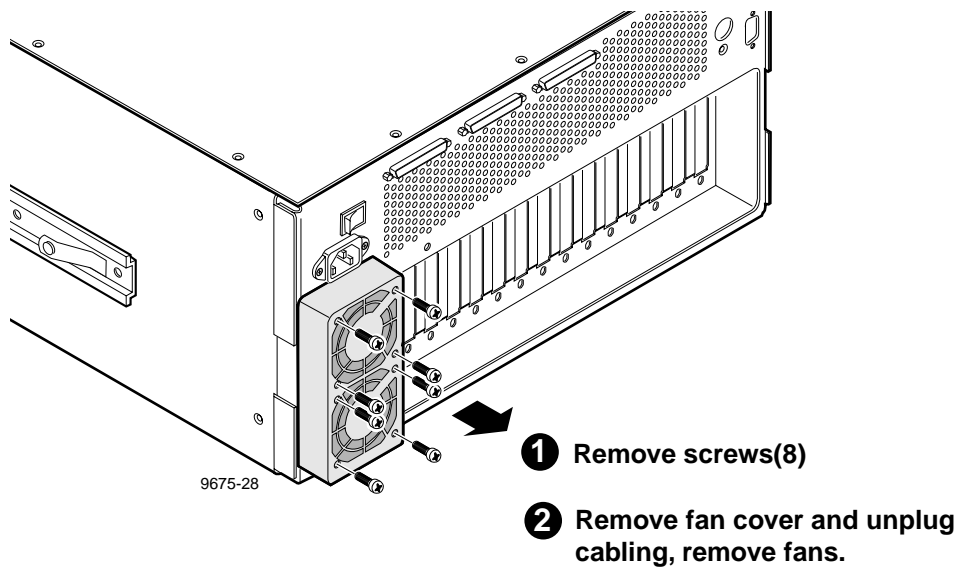

Figure 6-16. Removal of an External Fan
2. While supporting the cover and fans, use a Torx tool with the T15 tip to remove the screws which secure the cover and fans to the chassis (Figure 6-16).
2. While supporting the cover and fans, use a Torx tool with the T15 tip to thread the screws previously removed through the cover and fans into the chassis screw holes (Figure 6-16).